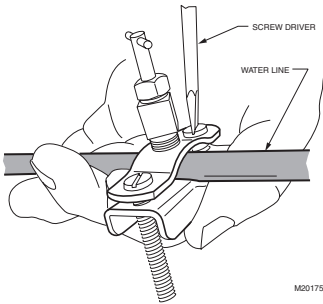

Fig. 6. Installing saddle valve.
3. Use the self-piercing saddle valve (included) to tap into the water supply line at the location selected. See Fig. 6. If tapping into galvanized pipe, drain line and pre-drill 3/16 in. tap for saddle valve.